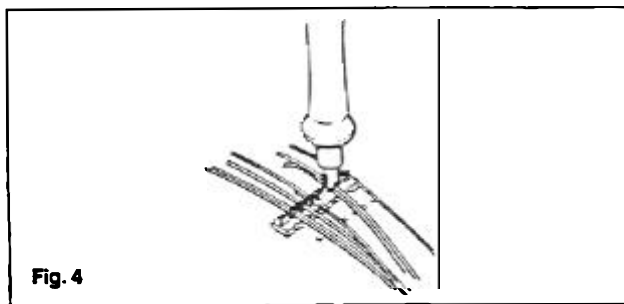

Fig. 4
2. Orient 3522 Wire Insertion Tool over conductor and contact (deep slot is at right angles to the wire). (Figure 4)